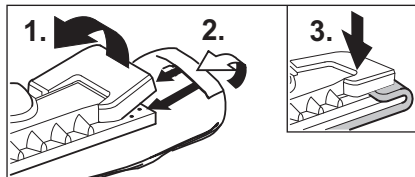

Figure 11: Attaching the floorcloth
- Attach the floorcloth (H3) to the floor nozzle (H1). Fold up the floorcloth lengthways, and place the floor nozzle on the cloth. Pull the jutting out ends of the floorcloths one after the other under the retaining clips (H2) (see Figure 11).